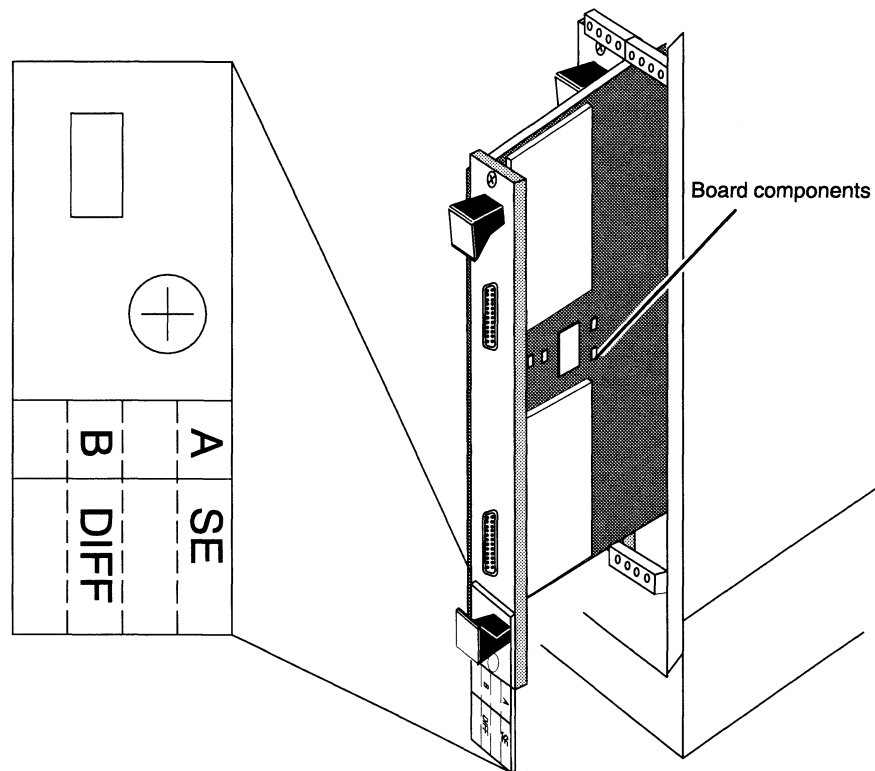

Figure 2–13 Labeled SCSI Ports
If you received your VSA board factory-installed in your AViiON® computer, it should be configured as you need it. The board has a tag attached to one of its handles, on which the orientation of the ports is labeled at the factory (see Figure 2–13). Each SCSI port will be labeled S.E. (for single-ended) or DIFF (for differential), so you will not have to remove the VSA board to determine the orientation of the daughter boards.
**NOTE:** Figure 2–13 is accurate only for customer-installable AViiON systems with no more than two 6U VME option slots. The instructions in this manual that deal with installing and/or removing the VSA board do not apply to systems in which the VSA board mounts in a 6U-to-9U adapter before installation.
If you must install the VSA board yourself, or if the daughter boards are not oriented the way you need them, you will have to position the daughter boards and fill in the label yourself. Each daughter board has the abbreviations S.E. and DIFF silk-screened onto opposite corners. The corner that is adjacent to the SCSI connector shows which way the board is oriented. For example, Figure 2–14 shows one daughter board positioned for single-ended operation and one positioned for differential.